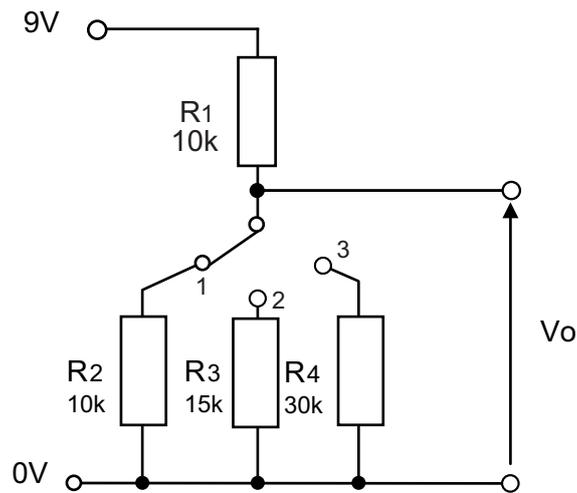

Fig. 9(a)
- 9 (a) A voltage divider circuit which consists of a power supply, a rotary switch and four fixed resistors is shown in **Fig. 9(a)**.
- (i) State the purpose of the rotary switch in the voltage divider circuit shown in **Fig. 9(a)**. [1]